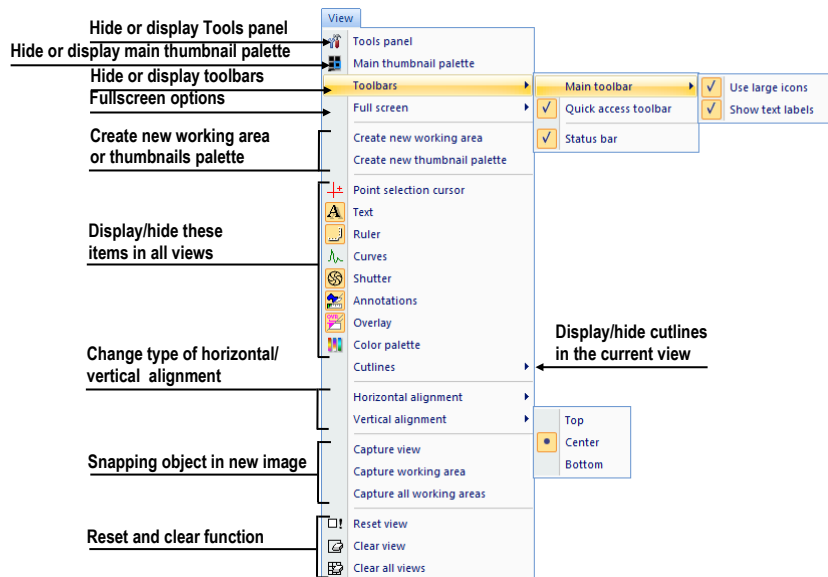

Figure 42 – View menu
- **View** – displaying/hiding toolbars, image descriptions, cutlines, changing the current view size, deleting views, creating new working areas or thumbnails palettes and changing the alignment of the images in the views (see Figure 42).